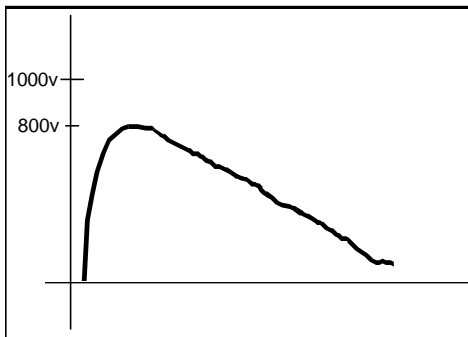

Figure 2. ESD that penetrates a poly bag.
**Abilities:** The bag has the ability to dissipate a static charge to ground. This keeps charge (static electricity) from building up on the package or the device. The material is also antistatic, suggesting that it will not charge up (tribocharge) when rubbed against other materials. The material's resistivity is in the dissipative range and is usually about  $10^9$  to  $10^{11}$ . Unfortunately these bags have no shielding ability. A static field or discharge occurring outside the bag will penetrate the bag and damage electronics inside. The graph below shows the penetration of a dissipative poly bag by electrostatic discharge (ESD). See figure 2.